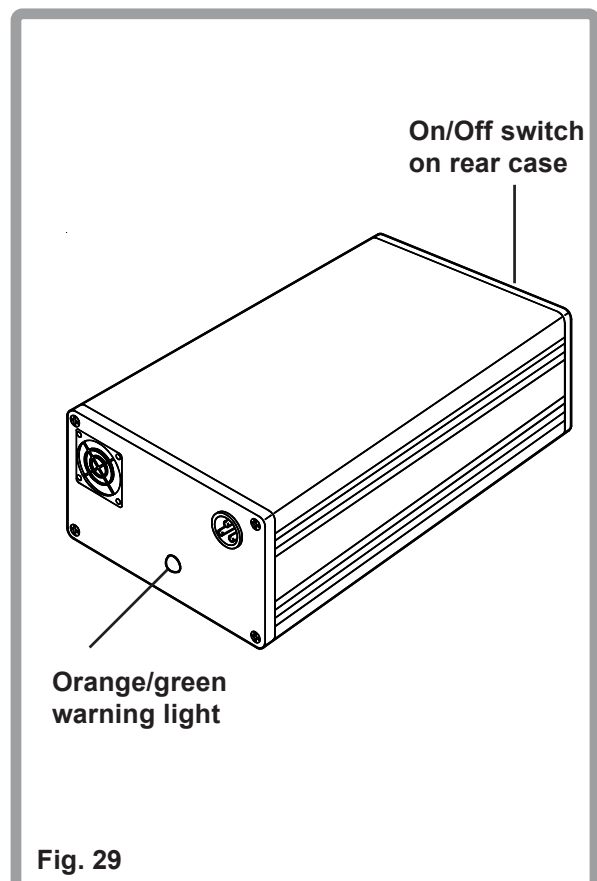

Fig. 29
The 24V 10A charger has one bi-coloured orange/green indicator to show the charger operation (Fig. 29).
- 3 At the start of charging the charger will undergo a self test procedure, this is indicated by the indicator flashing, alternating orange/green (Fig. 29).